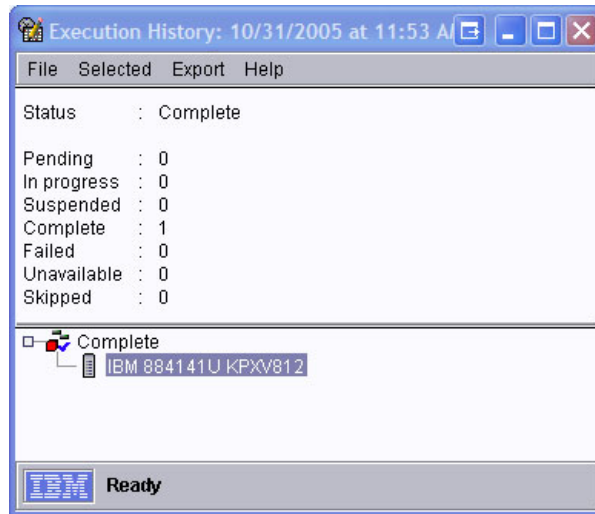

Figure 5-19 Results of applying the task against a service processor
6. A profile will now appear in the tasks pane in the Director console (see Figure 5-19). You can now drag and drop that profile to one or more service processors (Physical Platforms) or groups to either execute the task now or schedule it to run later.